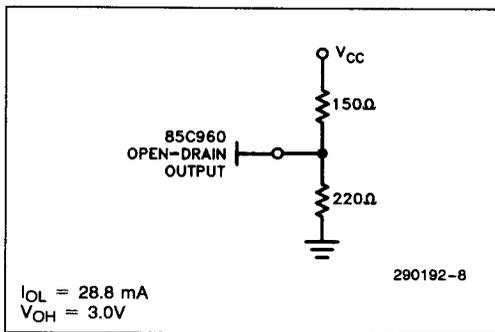

Figure 8. RDY# Pullup/Pulldown Resistors
RDY# is an open-drain I/O pin, which must be connected to pullup and pulldown resistors as shown in Figure 8. During a wait-state access, RDY# is pulled high to cause the controller to extend the current access so that the memory or peripheral chip has time to present data to the bus (read), or sample data on the bus (write). RDY# is released on the
7. RDY# is an open-drain output. Specified time includes RDY# output float delay and pull-up/pull-down resistors (Figure 8). RDY# remains low for a minimum of 10 ns at the start of a T_r state and goes high by CLK2a of the next T_x state.